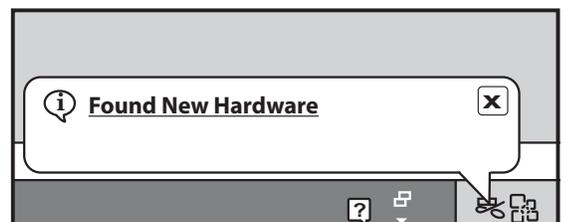

Figure 7
9. Your computer should display a “**New Hardware Found**” message on the tool bar near the clock (fig. 7). The unit is now ready to use.